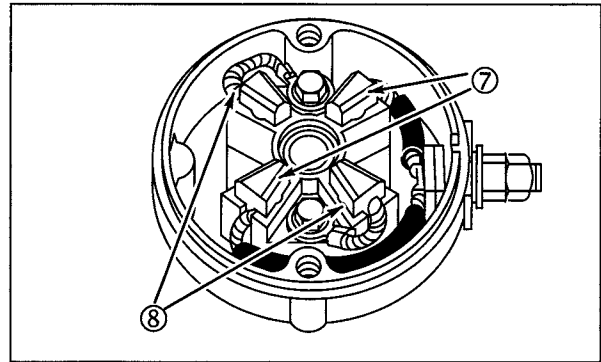

Fig. 24
1. Install positive (7) and negative (8) brushes with beveled edge UP in position shown, Fig. 24.